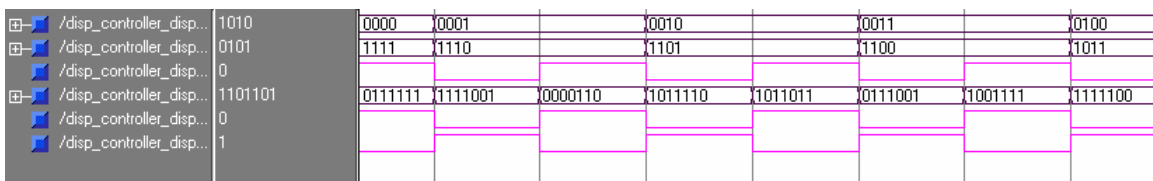

Figure 7; Display controller simulation
6. Simulate the project; Highlight the file disp\_controller\_tb.vhd under **Sources in Project**, expand **ModelSim Simulator** and double click **Simulate Behavioral model** under **Processes for Source** window. Make sure the simulation produces a waveform similar to figure 7.